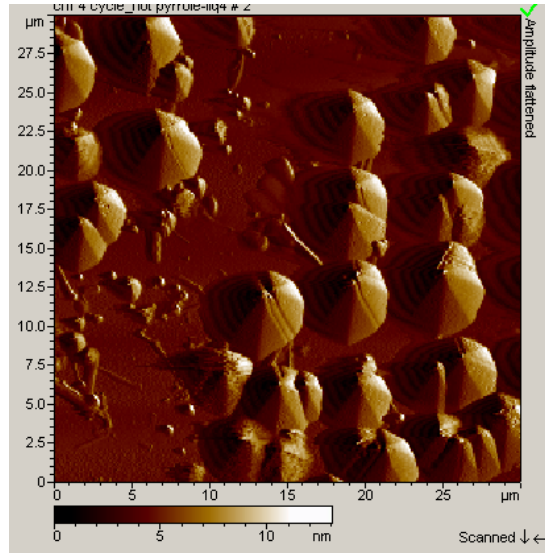

Fig. 4.1 Image showing artifacts due to tip-shape imaging
- The SPM image results from the convolution of tip shape with the sample topography. A general rule of thumb is: the smaller feature convolves (or images) the larger feature. If a feature is sharper than the tip, the image represents the shape of the tip and not vice versa. Fig. 4.1 below shows an example of a tip (larger in size) imaged by carbon nanotubes (smaller in size).